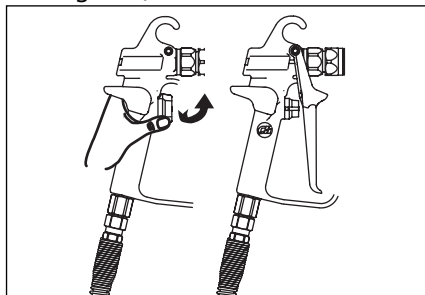

Figure 2 - Engage trigger lock by rotating lock as shown
- ▶ engage the trigger lock (see Figure 2)
- Always engage the trigger lock when not spraying (see Figure 2). Verify the trigger lock is functioning properly by pulling the trigger. If the trigger lock is functioning properly the gun valve will not spray.